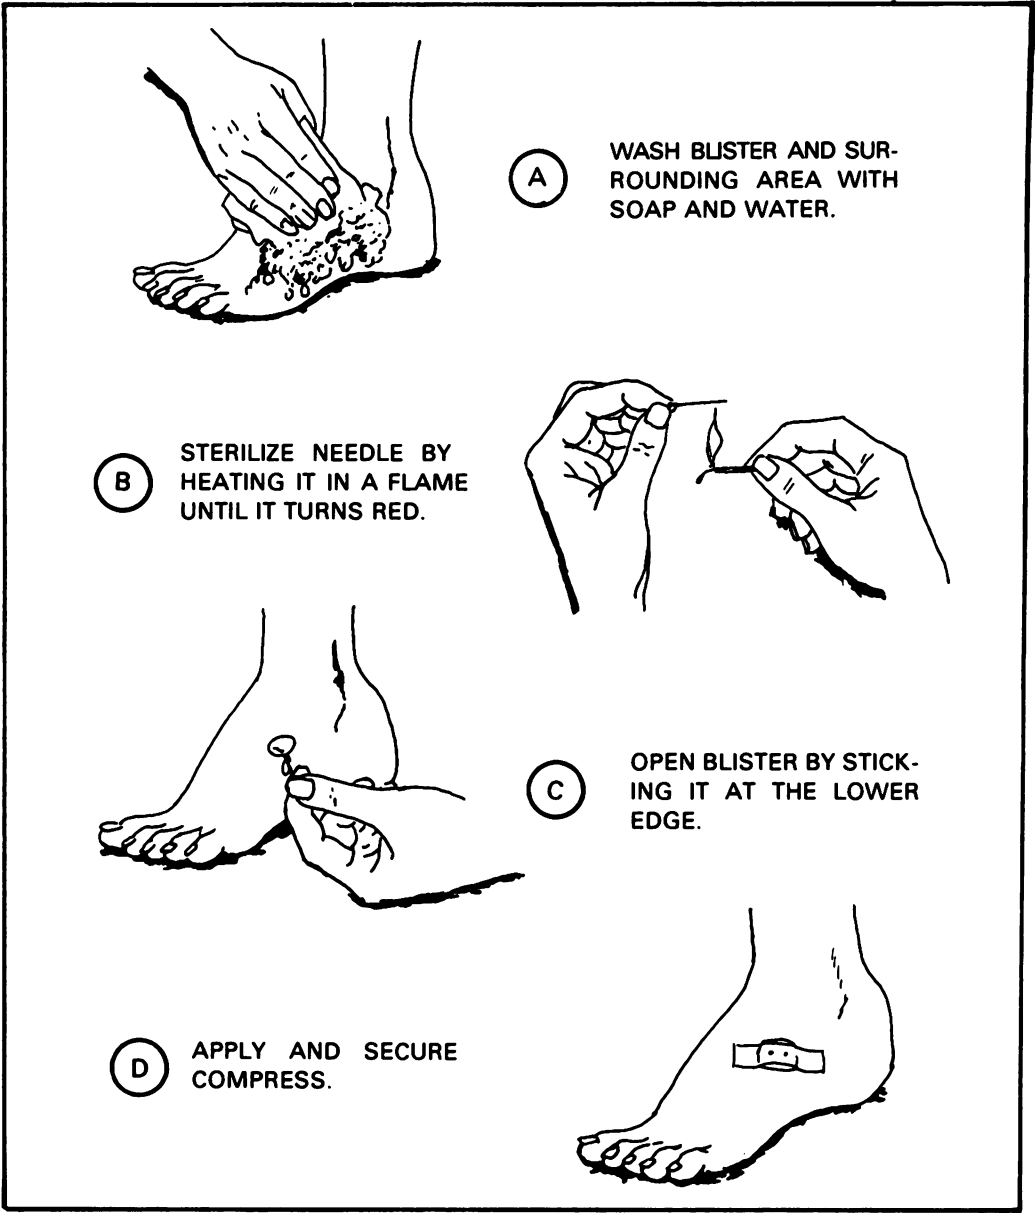

Figure 1.
a. Prior to the march, all men should be equipped with the proper type of correctly fitted, broken-in footgear, clean socks which are free of holes or knotty darns, and an adequate supply of foot powder. A soldier must never attempt to break in a new pair of shoes or boots on a long march. Blisters (figure 1), pressure spots, and infections should be treated and properly protected before the march starts.